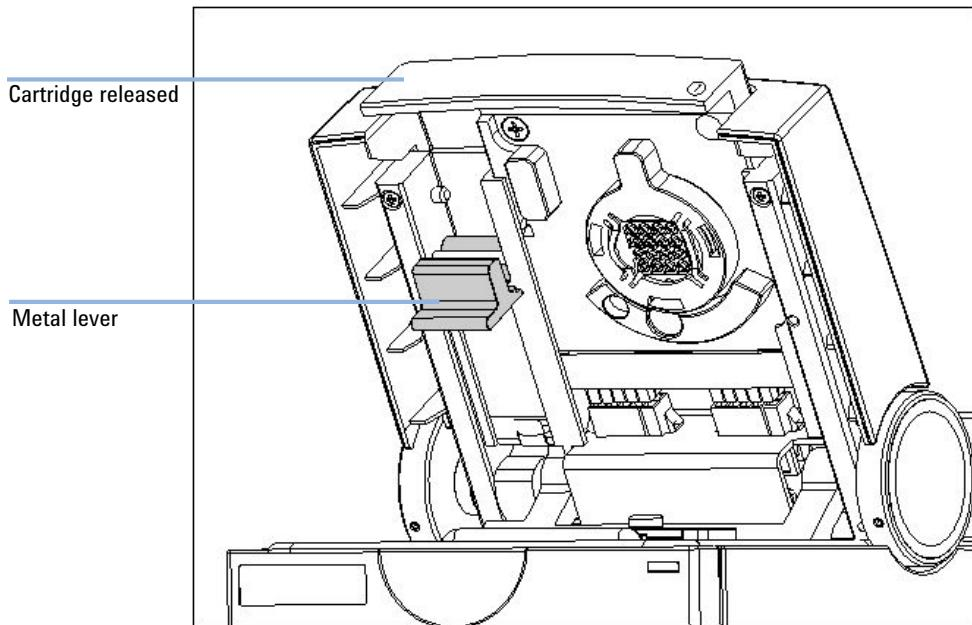

Figure 1 Remove/replace the electrode cartridge
- 2 Open the lid and pull the metal lever on the inside left of the lid to the vertical position as shown in Figure 1 on page 127. When the lever is in the vertical position, the cartridge is released from the lid by about 10 mm.
- 3 Gently pull the cartridge out of the lid as shown in Figure 1 on page 127.
- 12 Slide the electrode cartridge with the pin set into the 2100 Bioanalyzer instrument lid as shown in Figure 1 on page 127 and move the metal lever to the flat (closed) position.
- 13 Push the metal front of the electrode cartridge to ensure a tight connection to the 2100 Bioanalyzer instrument, see Figure 1 on page 127.